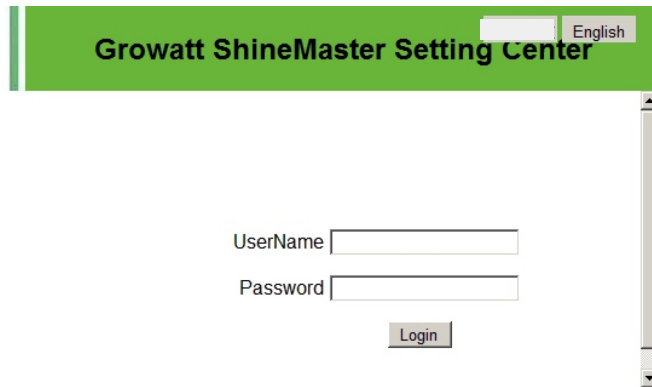

Fig 8.25
A.If the user successfully visits the shinemaster built-in page, they can go directly to the built-in page login interface, as shown in figure 8.25 below.